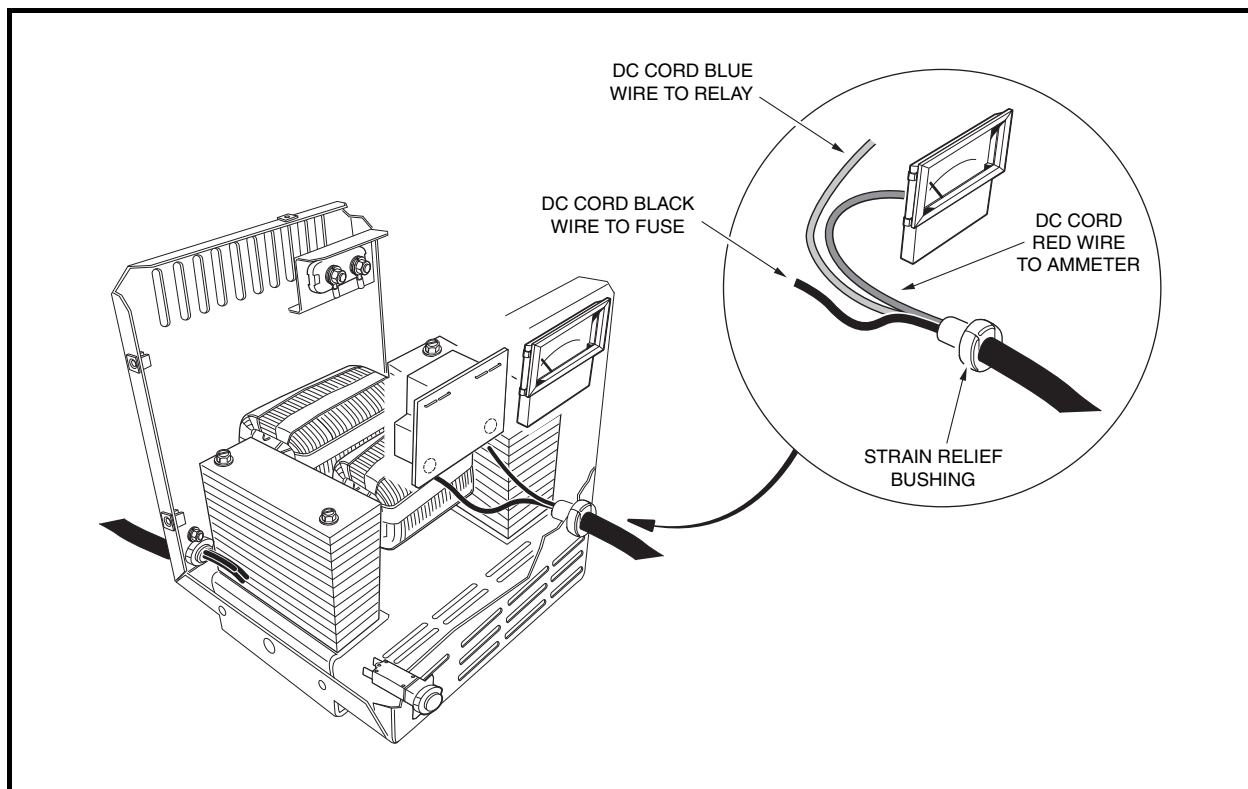

Figure 7-23 DC Cord
3. To check the continuity of the DC cord, disconnect the black wire of the DC cord from the fuse (**Figure 7-23, Page 7-28**).
3. Remove the DC cord black wire from the fuse by loosening the nut on the fuse (**Figure 7-23, Page 7-28**).
2. Attach the red wire of the new DC cord to the ammeter (**Figure 7-23, Page 7-28**).